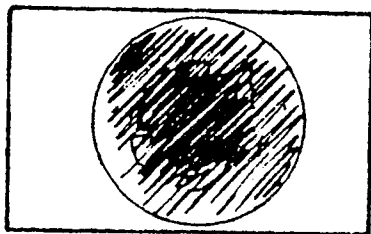

Fig 5
- 1) With the projector running without film and before installing lens, open the dowser. You should see a black circle on the screen. Adjust the bulb horizontally and vertically until the spot is centered on the screen. Adjust the focus ("Adj. Bulb Back/Forward") until the circle just fills the screen from top to bottom (Fig. 5).